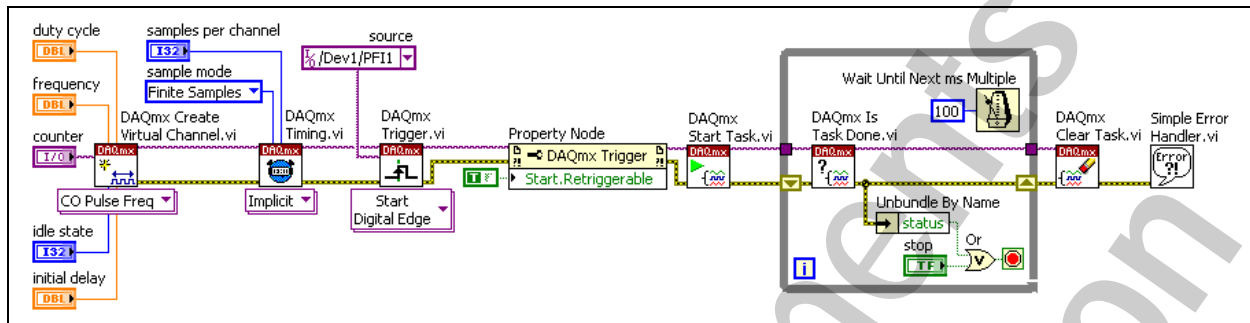

Figure 6-11. Retriggerable Pulse Train VI Block Diagram
3. Modify the block diagram to generate a retriggerable pulse train, as shown in Figure 6-11, using the following items: